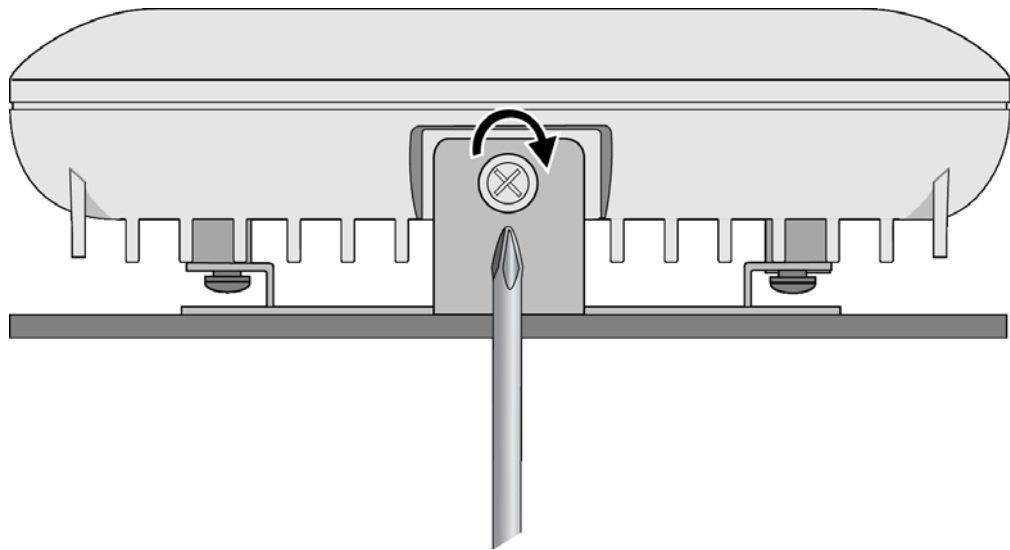

Figure 30. Tightening the Wall Mounting Bracket Thumbscrew
3. Tighten the thumbscrew to secure the wireless access point to the wall mounting bracket. Refer to Figure 30.